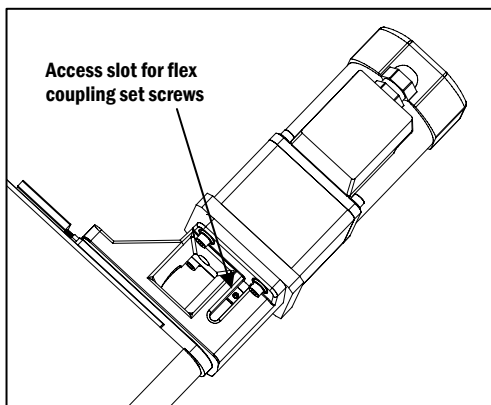

Figure 6
b. The Set Screws on both Coupling Halves will be visible through the top opening in the Casting by rotating the drive pulley (Figure 6). Using an Allen Wrench, tighten the Set Screws to secure their position.
⑤ Install the Heavy Duty Motor